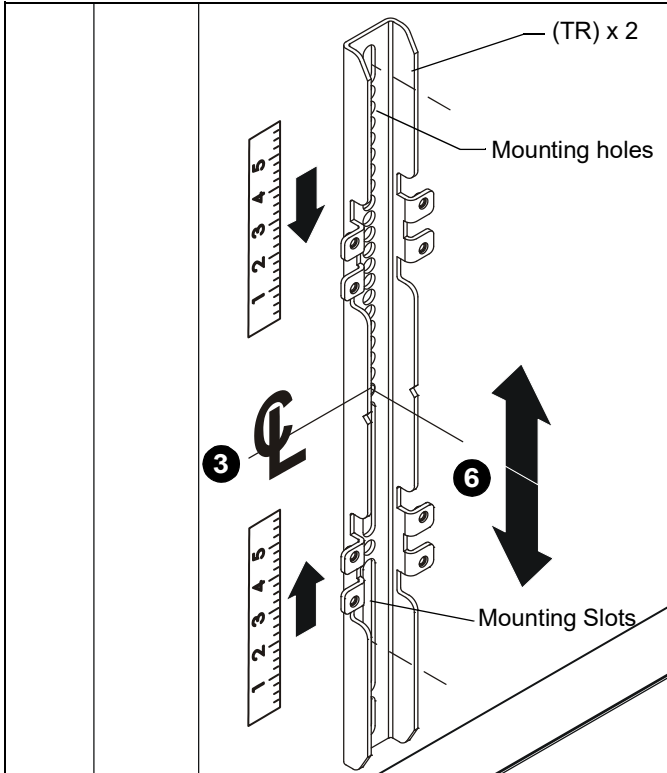
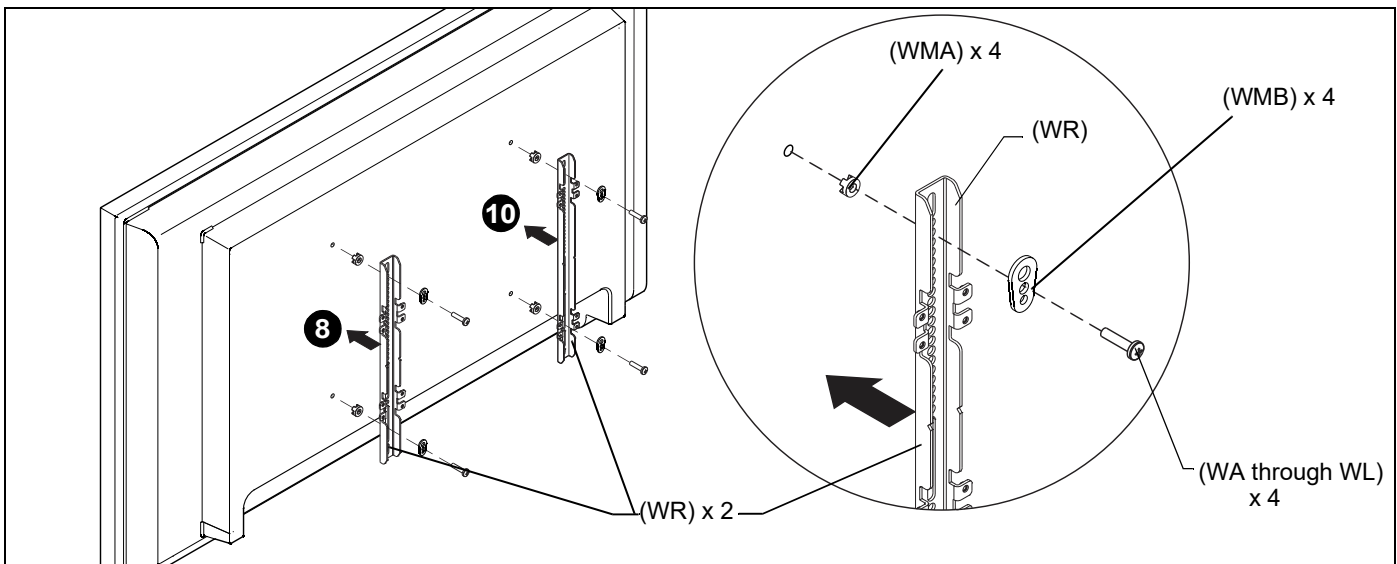

Figure 15
Figure 17
3. Determine and mark the vertical center position between the Left side Upper and Lower mounting holes in display. (See Figure 15)
4. Determine and mark the vertical center position between the Right side Upper and Lower mounting holes in display. (See Figure 15)
5. Orient vertical mounting bracket (WR) so that mounting holes are on top and mounting slots are on bottom. (See Figure 15)
7. Adjust vertical mounting bracket (WR) position until mark made in Step 1 aligns with center mark in vertical mounting bracket (WR).
8. Select correct screws, nesting spacers (if necessary) and universal washers (if required) from the hardware bag (WA-WM) and attach brackets to back of screen. (See Figure 17)
9. If the display has a recessed mounting surface, protrusions or a power box, a spacer and longer mounting hardware must be placed between the display and vertical mounting bracket (WR). (See Figure 17)